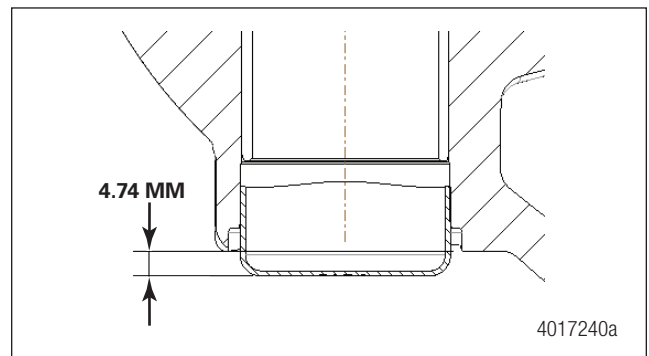
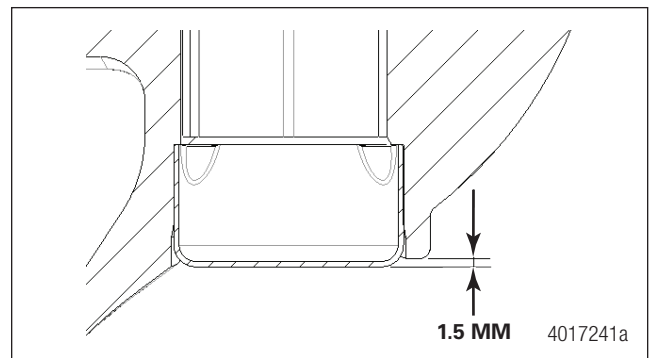

Figure 8.16 Slide Pin Measurement
Figure 8.17 Slide Pin Measurement
5. Install the slide pin caps. Figure 8.16 and Figure 8.17.